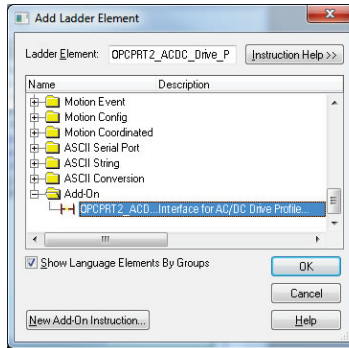

Figure 65: Add AC/DC Drive Profile Add-On Instruction
- 8) Select the AC/DC drive profile add-on instruction in the Add-On folder. Refer to Figure 65.